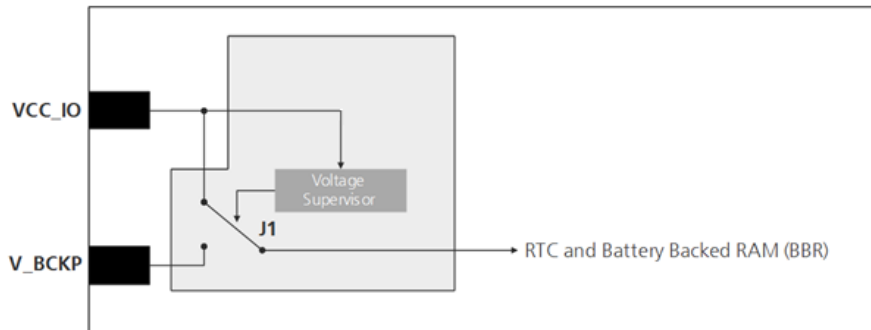

Figure 1: Backup battery and voltage
-  As long a supply is connected to **VCC_IO** of SAM-M8Q antenna module, the backup battery is disconnected from the RTC and the BBR to avoid unnecessary battery drain (see Figure 1). In this case, **VCC_IO** supplies power to the RTC and BBR. **V_BCKP** supplies the RTC and BBR in case **VCC_IO** voltage goes below 1.4V.